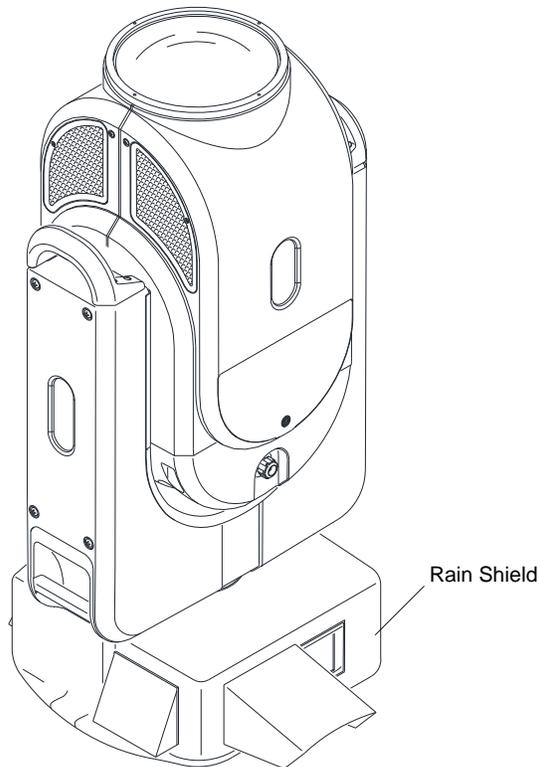

Figure 4: Installing Floor Standing Rain Shield
- Step 2. Install rain cover (10.9812.0031) as shown in **Figure 4** by slipping around pan tube and securing velcro flaps.